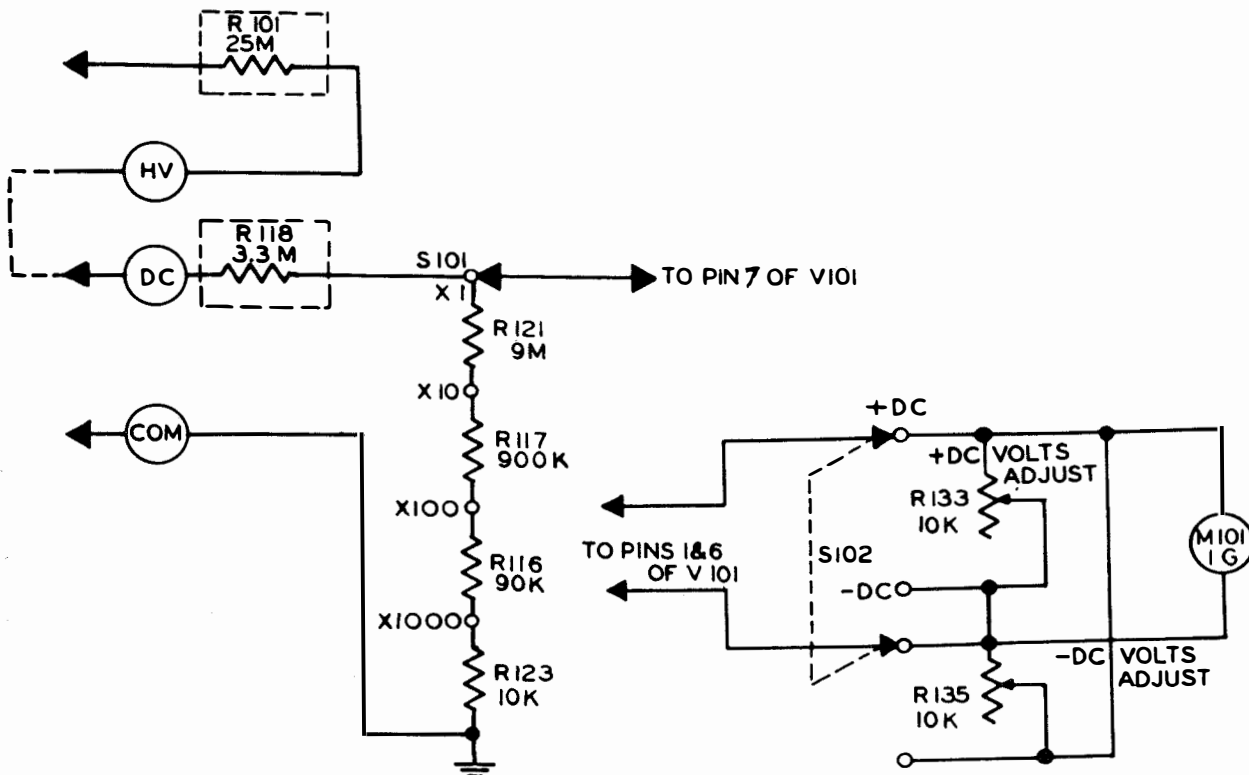
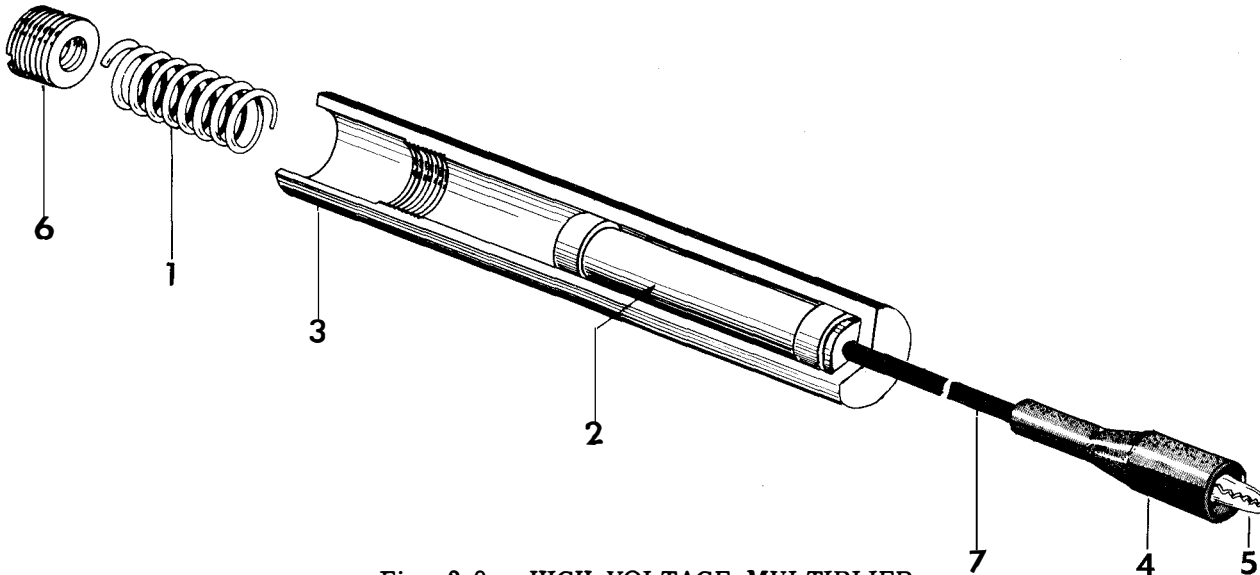

Fig. 2-3. D.C. VOLTMETER CIRCUIT
Fig. 2-9. HIGH VOLTAGE MULTIPLIER
b. DC VOLTMETER CIRCUIT. (See Fig. 2-3)
DC Voltages up to 1000 volts are applied directly through the DC probe as illustrated in Figure 2-3. The probe carries an isolating resistor of 3.3 megohms to prevent capacity loading of the circuits under test. For 3000 volt DC measurements, the high voltage multiplier, W-107, illustrated in Figure 2-9, is screwed on the end
of the regular DC probe. This high voltage multiplier contains a 25 megohm voltage dropping resistor. Voltages to be measured are applied from the multiplier to the voltage dividing network as illustrated in Figure 2-3. Voltages from this network are taken to grid (pin 7) of V-101. Negative DC voltages are measured by reversing the meter by means of S-102 as illustrated in Figure 2-3.